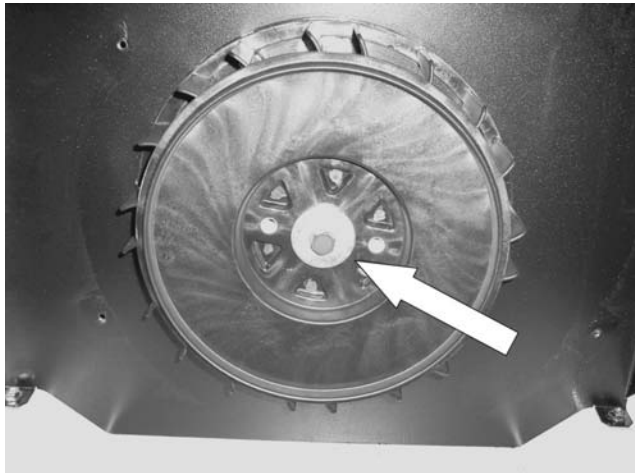

Figure 192.
8. **Remove Rotor Bolt:** Using a 9/16" socket, remove rotor bolt. Figure 192.